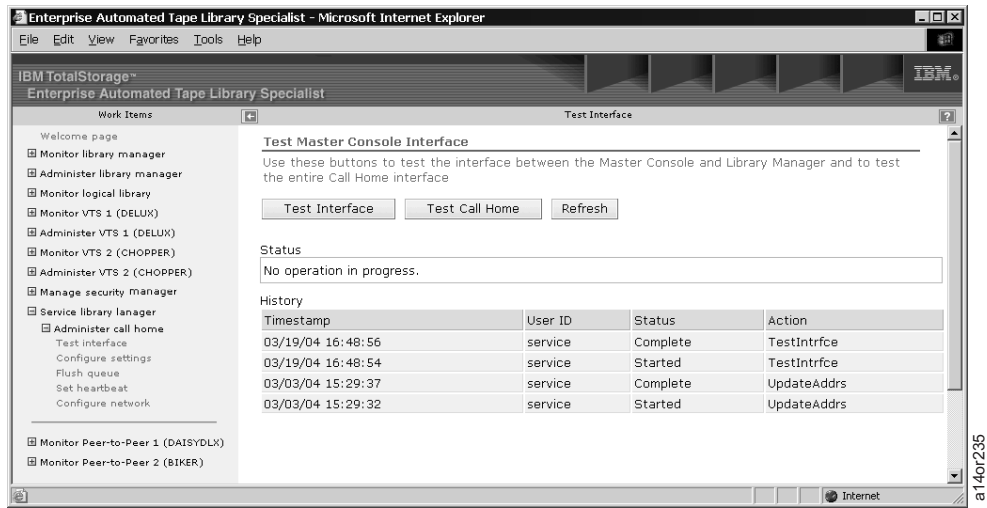

Figure 2-35. 3494 ATL Web Specialist - Test Interface
1. From the "Administer call home" list on the Web Specialist screen (Figure 2-34), click **Test interface** to see the options shown in Figure 2-35 on page 2-29. If you are prompted for a username and password, use the default values of **service** for the username and **service** for the password. These values can be changed by the 3494 ATL system administrator.
From this screen (Figure 2-35 on page 2-29), you can test the (network) interface between the LM and the System Console (from the perspective of the LM).